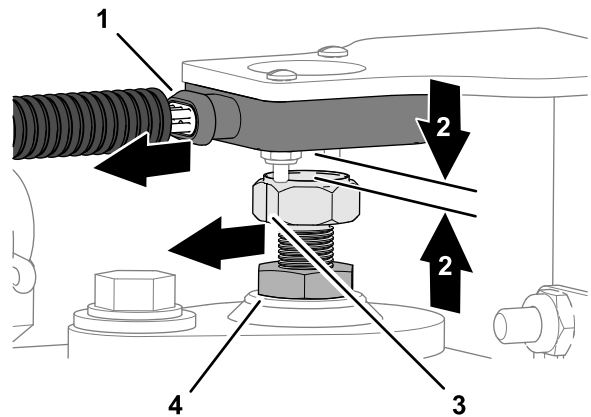

Figure 15
1. Adjust the position of the WAS until you measure a gap 4 mm (0.16 inch) between the target and the face of sensor (Figure 15).
2. Rotate the WAS until the indicator line that is stamped into the flat face of the WAS aligns with the wiring port of the sensor (Figure 15).
3. Tighten the jam nut (Figure 15).
4. Measure the gap between the target and the face of sensor (Figure 15). You should measure 2 to 4 mm (0.08 to 0.16 inch).